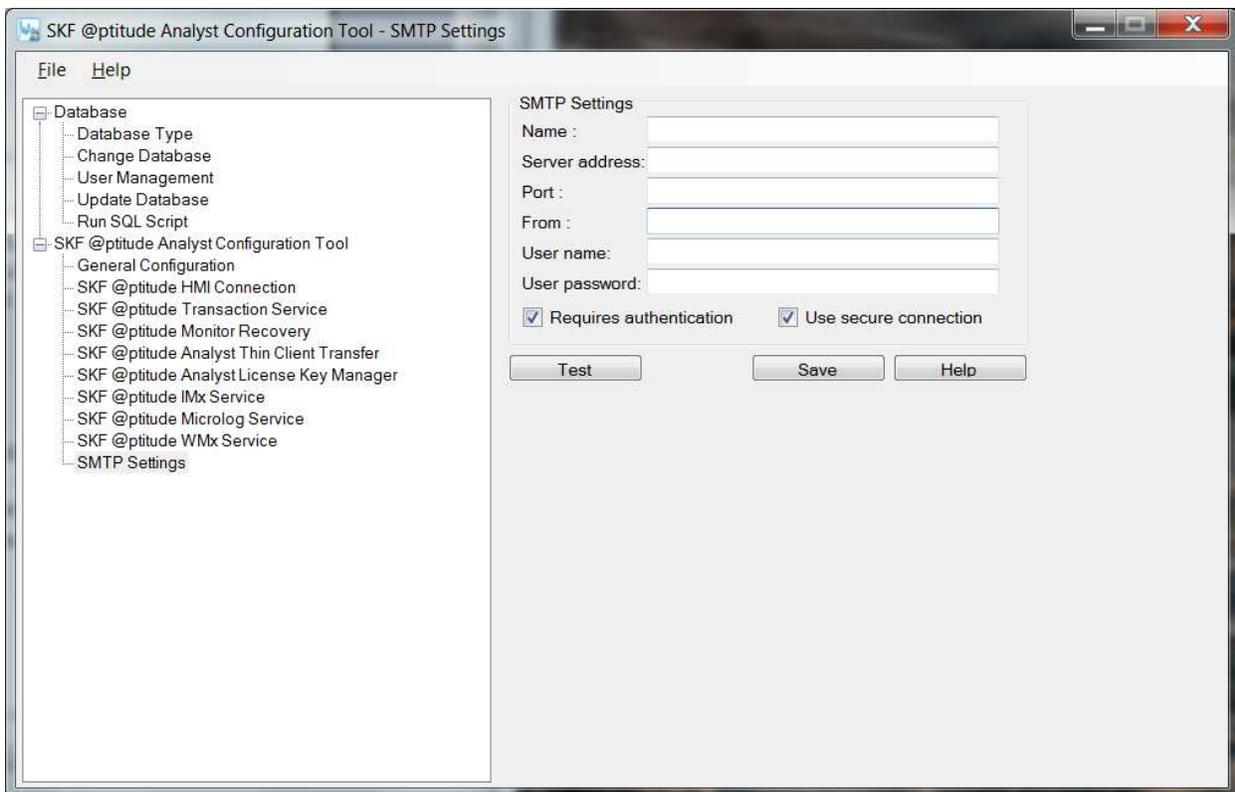

Figure 1.1. Configure SMTP Settings in the Configuration Tool
2. Click on the **SMTP Settings** link in the left panel. [Figure 1.1]